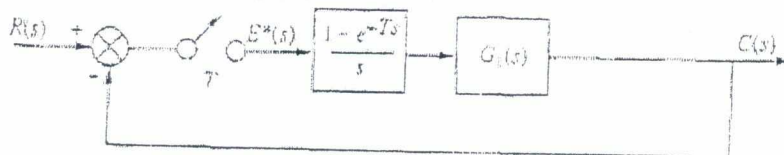

Figure 2 Q 3(b)
- (b) For step, ramp, and parabolic inputs, find the steady-state error for the feedback control system shown in Figure 2 for  $T = 0.1$  second 10